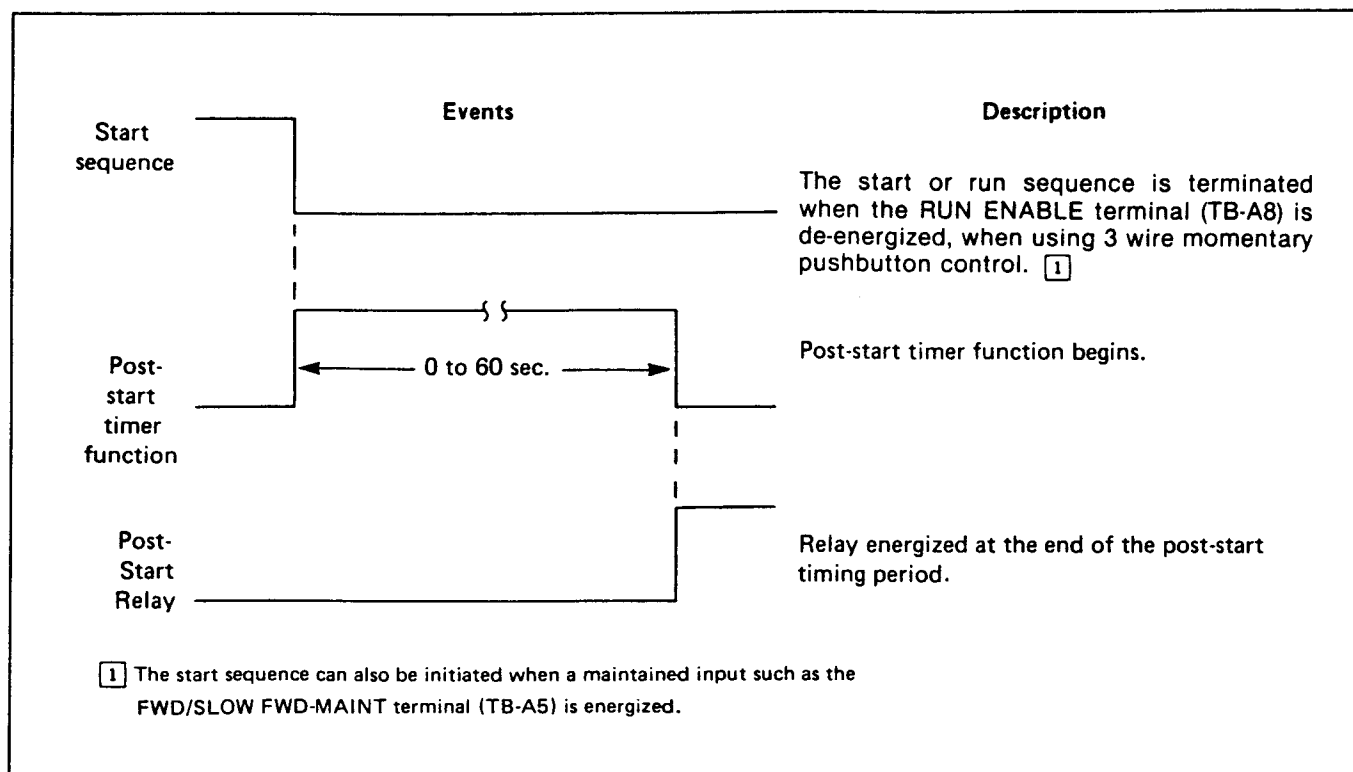

Figure 6.7 — Post-start Events Diagram
6.21 Post-start Timer — The post-start timing setpoint function, initiated after the end of the start sequence, can be used to enable auxiliary control functions **after** the sequence begins. (See Figure 6.7.) For example, a load may be increased on a motor; another motor may be enabled; or, in stepping or process control applications, the next step in the process may be enabled.